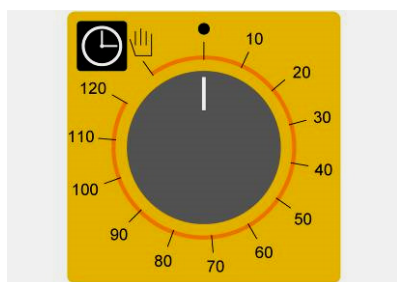

Fig. 1
**Programming cooking time** - To run the oven, turn the programmer knob (Fig. 1) in line with symbol 🕒 (continuous operation) or in line with the selected cooking time (up to 120 minutes). In the second case, end of cooking is signalled by the oven switching OFF automatically.